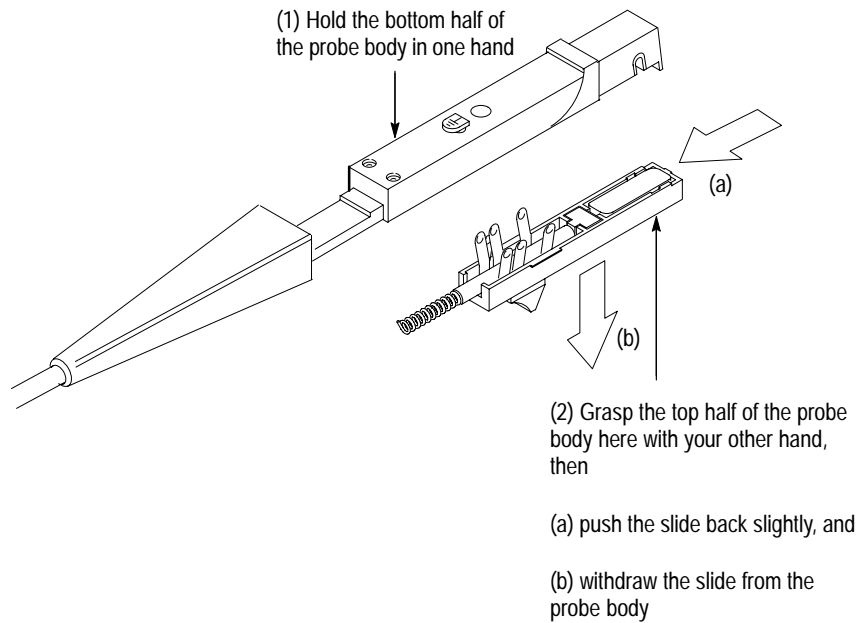

Figure 10: Removing the probe slide
5. Turn the probe upside down, push the slide back slightly, and remove the slide (see Figure 10).